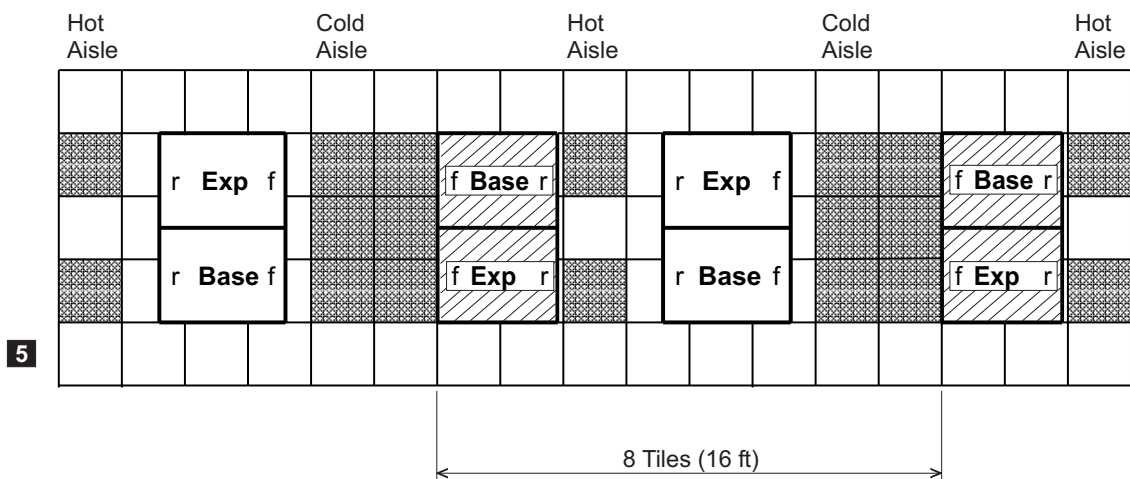

Figure 16. DS8000 layouts and tile setups for cooling
- a. For a standalone base model, install two fully perforated tiles in front of each base model and one partially perforated tile at the back of each base model, as shown in Figure 16 on page 89 in the single-machine examples (1 and 2 in the figure).
- b. For a row of machines, install a row of perforated tiles in front of the machines and one or two fully perforated tiles at the back of each two machines, as shown in Figure 16 on page 89 (3 and 4 in the figure).
- c. For groupings of machines, where a hot aisle/cold aisle layout is used, use a cold aisle row of perforated tiles in front of all machines. For hot aisles, install a perforated tile per pair of machines. A possible minimal configuration is shown in Figure 16 (5 in the figure).
Note: Keep in mind that the dimensions represented in Figure 16 might not be adequate for floor-load requirements.